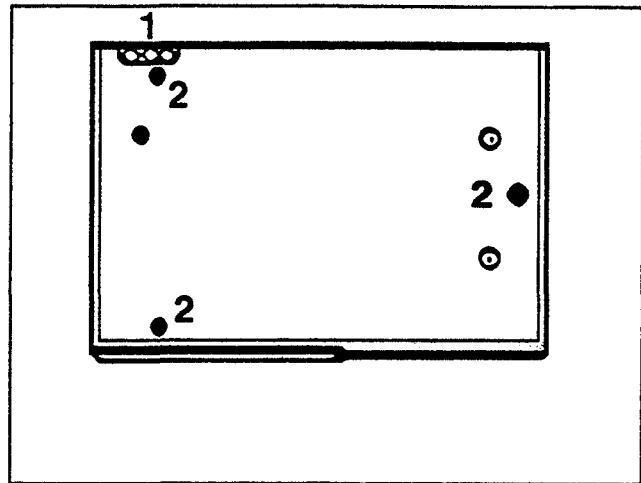

Figure 1
2. Remove shipping screws (2) from CD changer and install them in storage place (1). Cover the holes with adhesive dust covers (Figure 1).